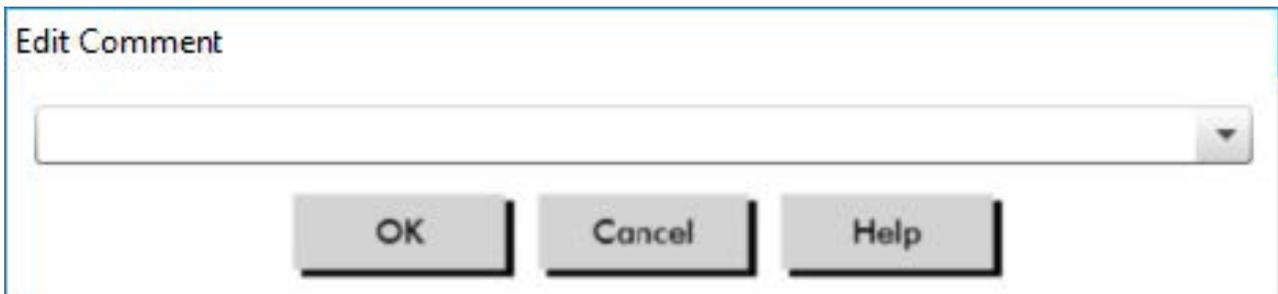

Figure 12: Text Entry Box for Setting a New Comment
3. In the **Times** tab (Figure 12), reset the patient's asleep and awake times to the nearest half-hour by moving the appropriate sliders right or left. The new times are displayed on the clock face, with the black portion representing time asleep and the white portion, time awake. The clock is displayed in a 24-hour clock (i.e. 12:00 is noon, 18:00 is 6 p.m., and 00:00 or 24:00 is midnight).